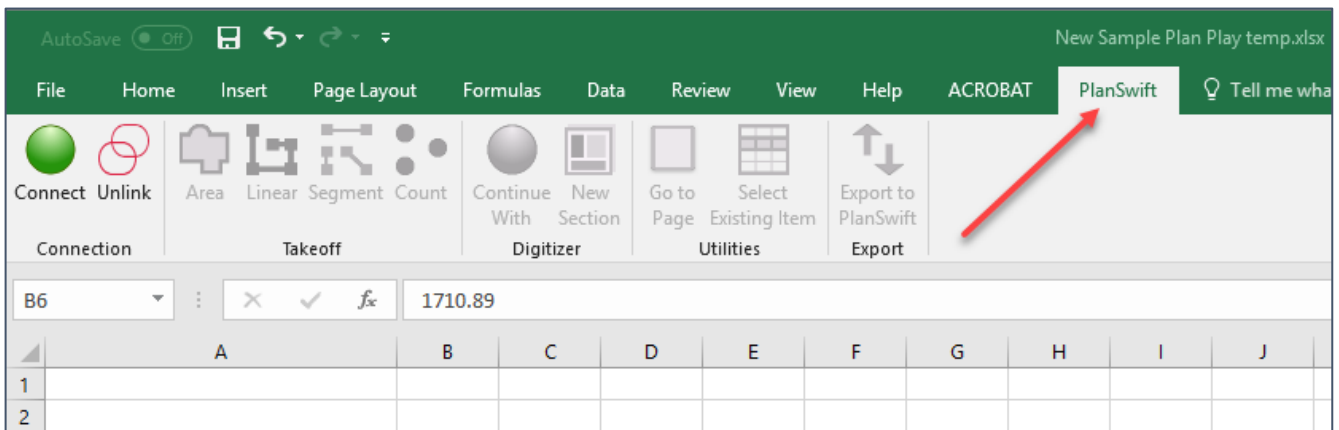

Figure 39-A
The **PlanSwift Ribbon-bar Tab** (Fig. 39-A) is visible once PlanSwift is installed and Excel is started.
1. Click on the **PlanSwift Ribbon-bar-Tab** (Fig. 39-A) so that the PlanSwift Ribbon-bar icons are visible.